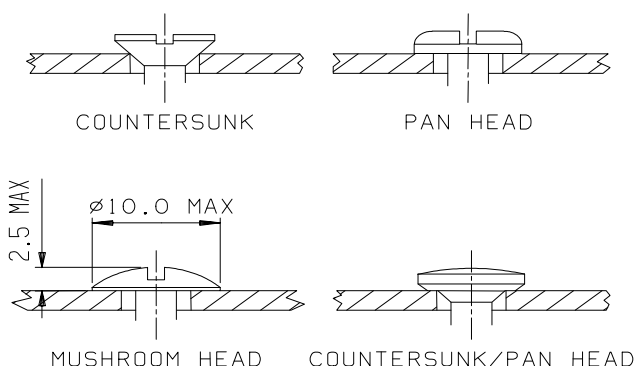

Fig. 6
2.1.30.3 Screws with special combination countersunk/pan heads are also an acceptable head format. See Fig. 6 below.